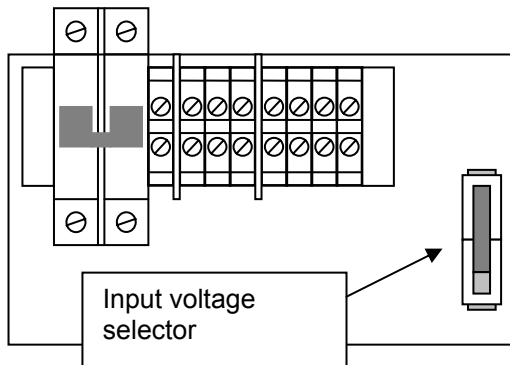

Figure 5: input voltage selection
4. Switch on the circuit breaker (see figure 5)